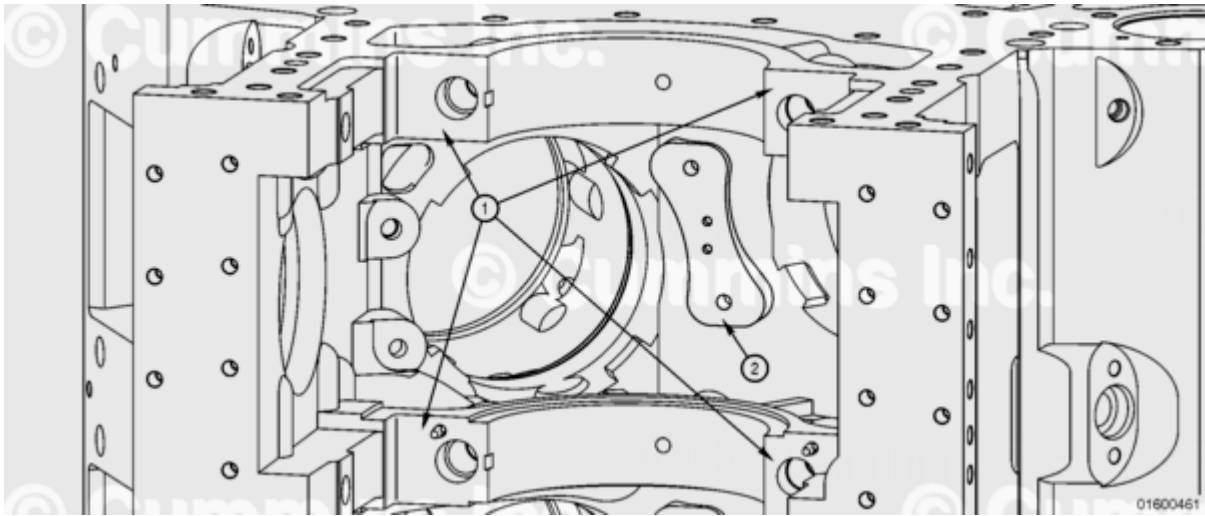

Figure 7: Upper Piston Cooling Nozzle Reference Points (1) Datum A, (2) Mounting Pad
Upper Piston Cooling Nozzle Mounting Pad (See Figure 7 and 8)
- Figure 7 shows the location of Datum A (1) and the upper piston cooling nozzle mounting pad (2).